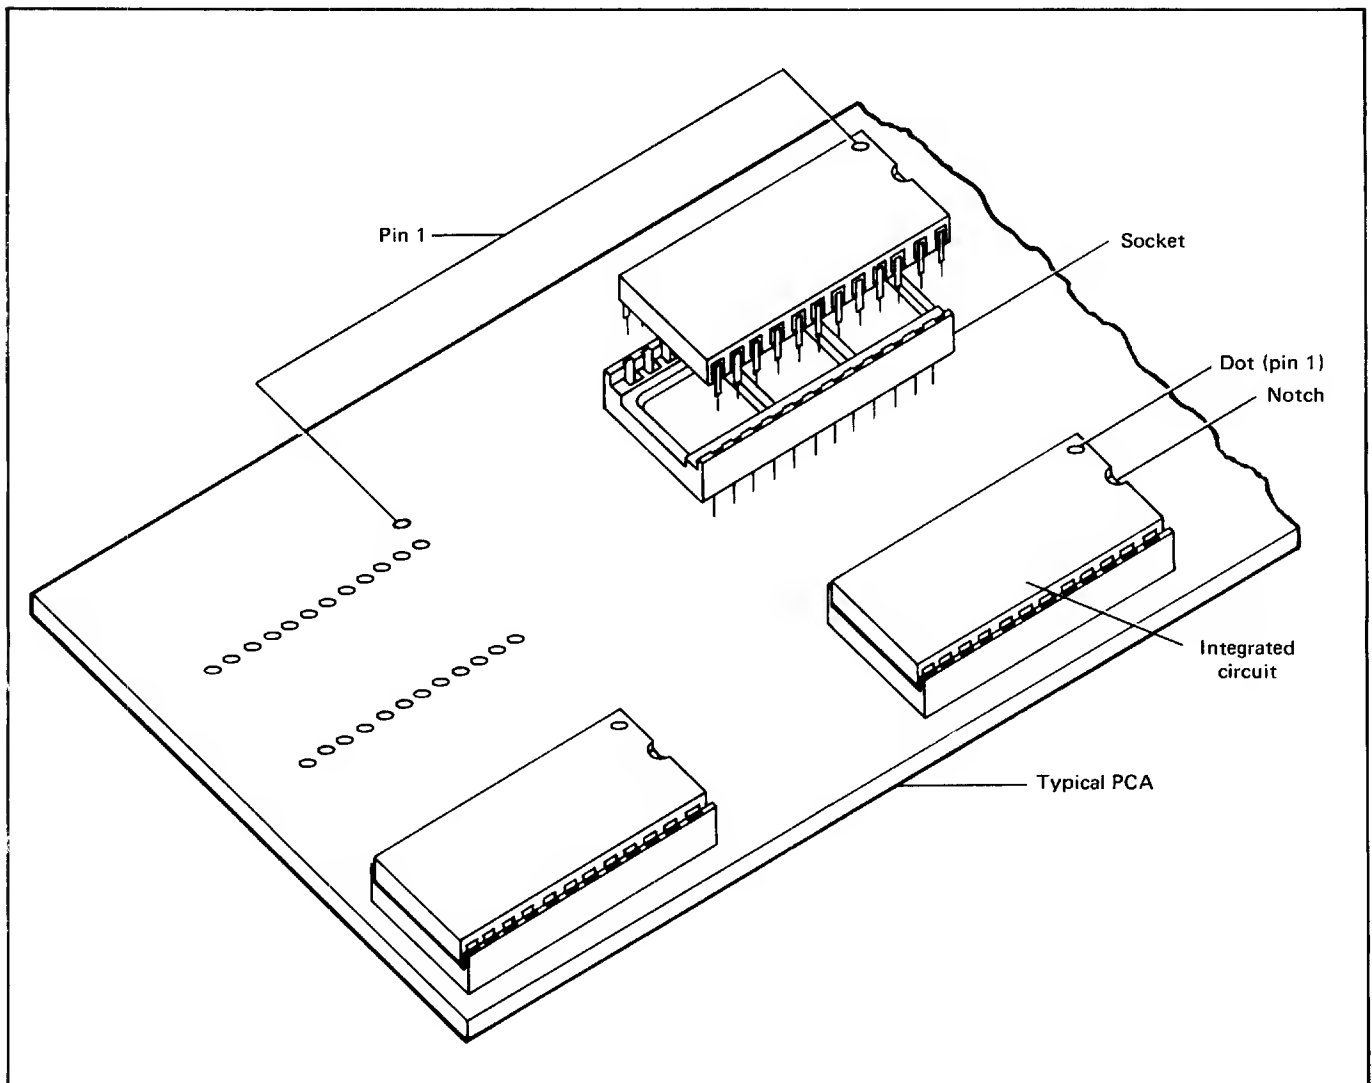

Figure 7-10 Installing An IC
1. If replacement PCA requires ROM's, transfer them from the previously removed PCA. Use an IC removal tool (part no 8710-0585) to carefully withdraw the ROM's from their IC sockets (see figure 7-10).
REPLACEMENT When replacing a defective IC, be aware that each IC must be oriented and aligned in its socket, i.e. pin 1 of the IC matches pin 1 of the PCA. All IC's on a PCA are usually installed in the same direction, i.e. the notched ends of the IC's are facing in one direction for correct orientation. Pin 1 is usually indicated on the PCA by a mark and pin 1 on the IC is marked by a dot or notch. These markings help to ensure that both the IC socket and IC are installed correctly (see figure 7-10). Install new IC as follows: